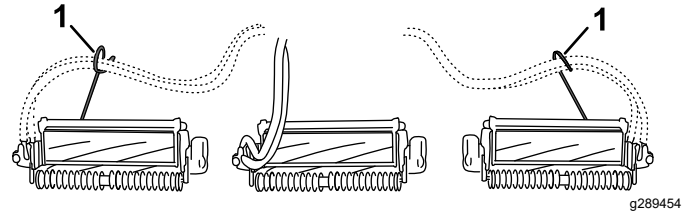

**Figure 9**
4. Mount the rod bracket to the cutting unit tabs with the carriage bolts and nuts (Figure 6). On the cutting unit, mount the left hose guide to the front of the cutting unit tabs when installing the rod bracket (Figure 9).
On Cutting Unit 4 (left front) and Cutting Unit 5 (right front), use the rod-bracket mounting nuts to install the hose guides to the front of the cutting-unit tabs. The hose guides should lean toward the center cutting unit (Figure 8, Figure 9, and Figure 10).